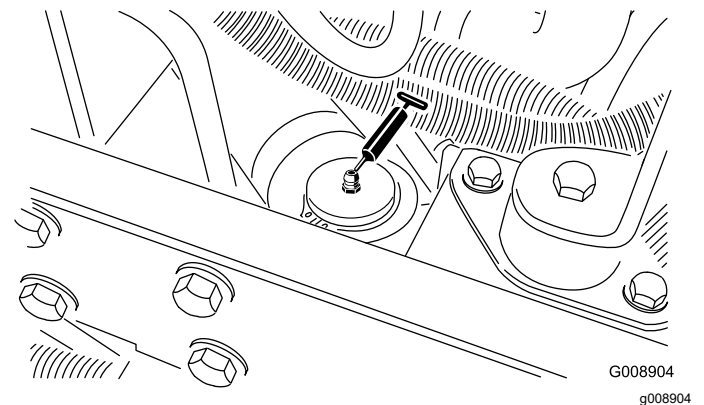

Figure 47
- Steering cylinder (Figure 47).